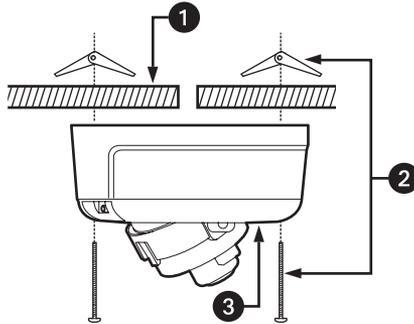

Figure 6. Ceiling or Wall Installation
- ① Ceiling/Wall
- ② Back Box
- ③ 3/16-inch Toggle Bolts (not supplied)
- (1) Use the surface mount template to mark two 0.50-inch (1.27 cm) mounting holes and one 0.75-inch (1.91 cm) cable feedthrough hole before drilling (refer to *Surface Mount Template* on page 18).
- (2) Use 6-32 toggle bolts (not supplied) to attach the surface mount ring and back box to the mounting surface (refer to Figure 6)